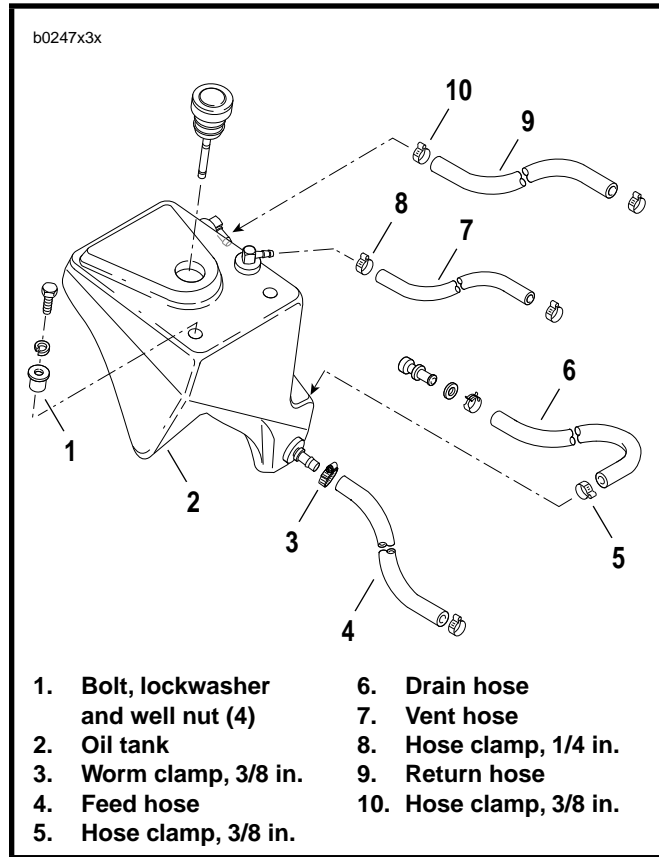

Figure 3-40. Oil Tank
4. See Figure 3-40. Disconnect hoses from oil tank. Label each hose upon removal.
- a. Remove worm clamp (3) from feed hose (4).
- b. Remove clamp (5) from drain hose (6).
- c. Remove clamp (8) from vent hose (7).
- d. Remove clamp (10) from return hose (9).
1. See Figure 3-40. Place oil tank on frame and align mounts. Loosely install bolts and lockwashers (1) at all four mounting points.